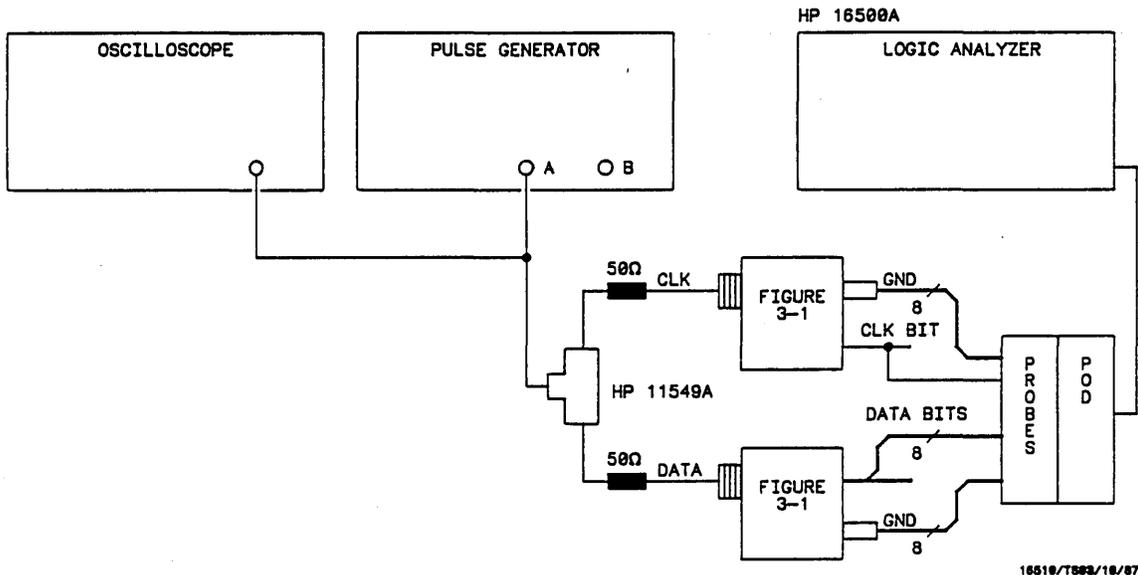

Figure 3-2. Setup for Clock, Qualifier, and Data Inputs Test 1
1. Connect the HP 16510A and test equipment as in figure 3-2.